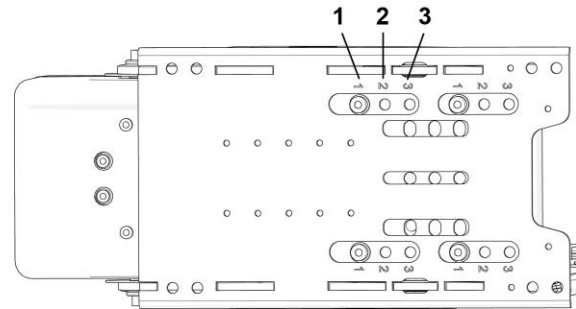

Fig. 1. The seat angle mechanism is held in place by four screws.
1. Mount the seat angle mechanism using the four screws. See fig. 1. It can be mounted in three different positions, depending on the depth of the seat. See the table below. Use a torque wrench to tighten the screws. **Tightening torque 24 Nm.**